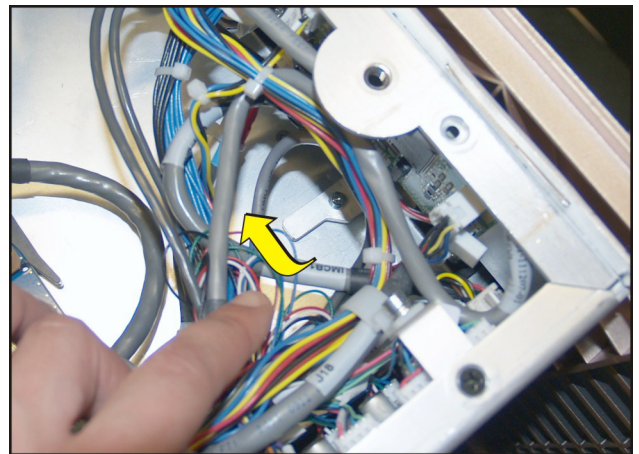

Figure 5-59 Spring Latch for Security Ring
3. Release the security ring by pushing the latch, located on the inside of the cardcage, to the right. **(Figure 5-59) NOTES: 1) Marriage is broken when this latch is toggled. 2) The security ring should only be removed by Christie authorized service technicians.**
3. Release the security ring by pressing right on the latch located on the inside of the cardcage. **(Figure 5-59)**
3. Remove the security ring by pressing right on the latch, located on the side of the cardcage. See **Figure 5-59**. **NOTES: 1)** Marriage is broken when this latch is toggled. **2)** The security ring should only be removed by Christie authorized service technicians.
3. Remove the security ring by pressing right on the latch, located on the side of the cardcage. Refer to, **Figure 5-59**. **NOTES:** **1)** *Marriage is broken when this latch is toggled.* **2)** *The security ring should only be removed by Christie authorized service technicians.*